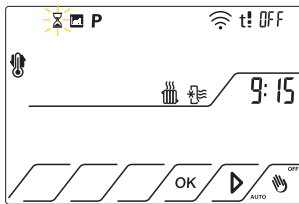

Fig.18
5.3.3 Press  up to position on  that it will to flash and OFF appears. Fig.18